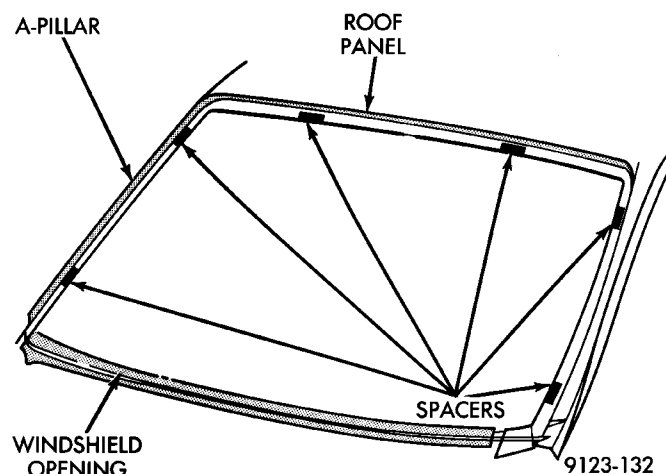
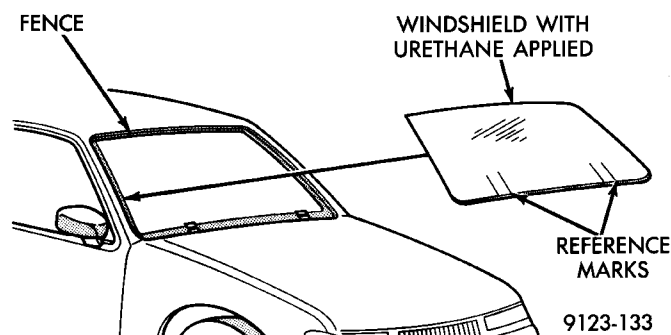

Fig. 5 Position Urethane Compression Spacers
Fig. 6 Lower Windshield Into Position
(6) Clean inside of windshield with ammonia based glass cleaner and lint-free cloth.
(7) Apply molding to perimeter of windshield.
(8) Apply Glass Prep adhesion promoter 25 mm (1 in.) wide around perimeter of windshield and wipe with clean/dry lint-free cloth until no streaks are visible.
(9) Apply Glass Primer 25 mm (1 in.) wide around perimeter of windshield. Allow at least three minutes drying time.
(10) Using a razor knife, remove as much original urethane as possible. Do not damage paint on windshield fence.
(11) Apply pinch weld primer 15 mm (.75 in.) wide around the windshield fence. Allow at least three minutes drying time.
(12) If a low viscosity urethane adhesive is used, install compression spacers on the fence around the windshield opening (Fig. 5).
(13) Apply a 10 mm (0.4 in.) bead of urethane on centerline of windshield fence.
(14) With the aid of a helper, position the windshield over the windshield opening. Align the reference marks at the bottom of the windshield to the support spacers.
(15) Slowly lower windshield glass to windshield opening fence. Guide the molding into proper position as necessary. Push windshield inward molding is flush to roof line and A-pillars (Fig. 6).
(16) Clean access urethane from exterior with Mopar®, Super Clean or equivalent.
(17) Apply 150 mm (6 in.) lengths of 50 mm (2 in.) masking tape spaced 250 mm (10 in.) apart to hold molding in place until urethane cures.
(18) Install cowl cover and wipers.